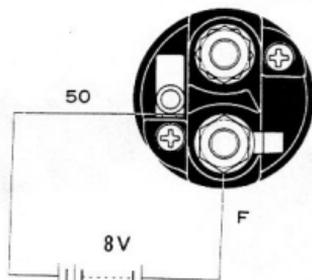

Fig.8-12 Pull-in Coil Test G0721
1. Test the pull-in coil motion of the magnetic switch. Connect the test lead as illustrated in figure 8-12. The magnetic switch should pull in the plunger strongly with 8 volts.